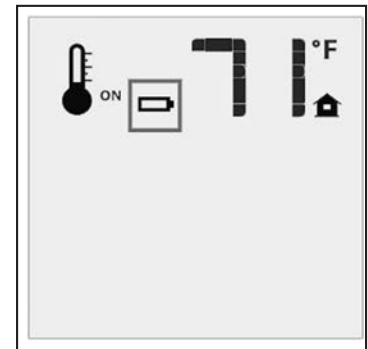

Figure 18: Low Battery
**Transmitter:** The life span of the remote control batteries depends on various factors: quality of the batteries used, the number of ignitions of the appliance, the number of changes to the room thermostat set point etc. When the Transmitter batteries are low, a Battery Icon will appear on the LCD display of the Transmitter (see Figure 18) before all battery power is lost. When the batteries are replaced this icon will disappear.